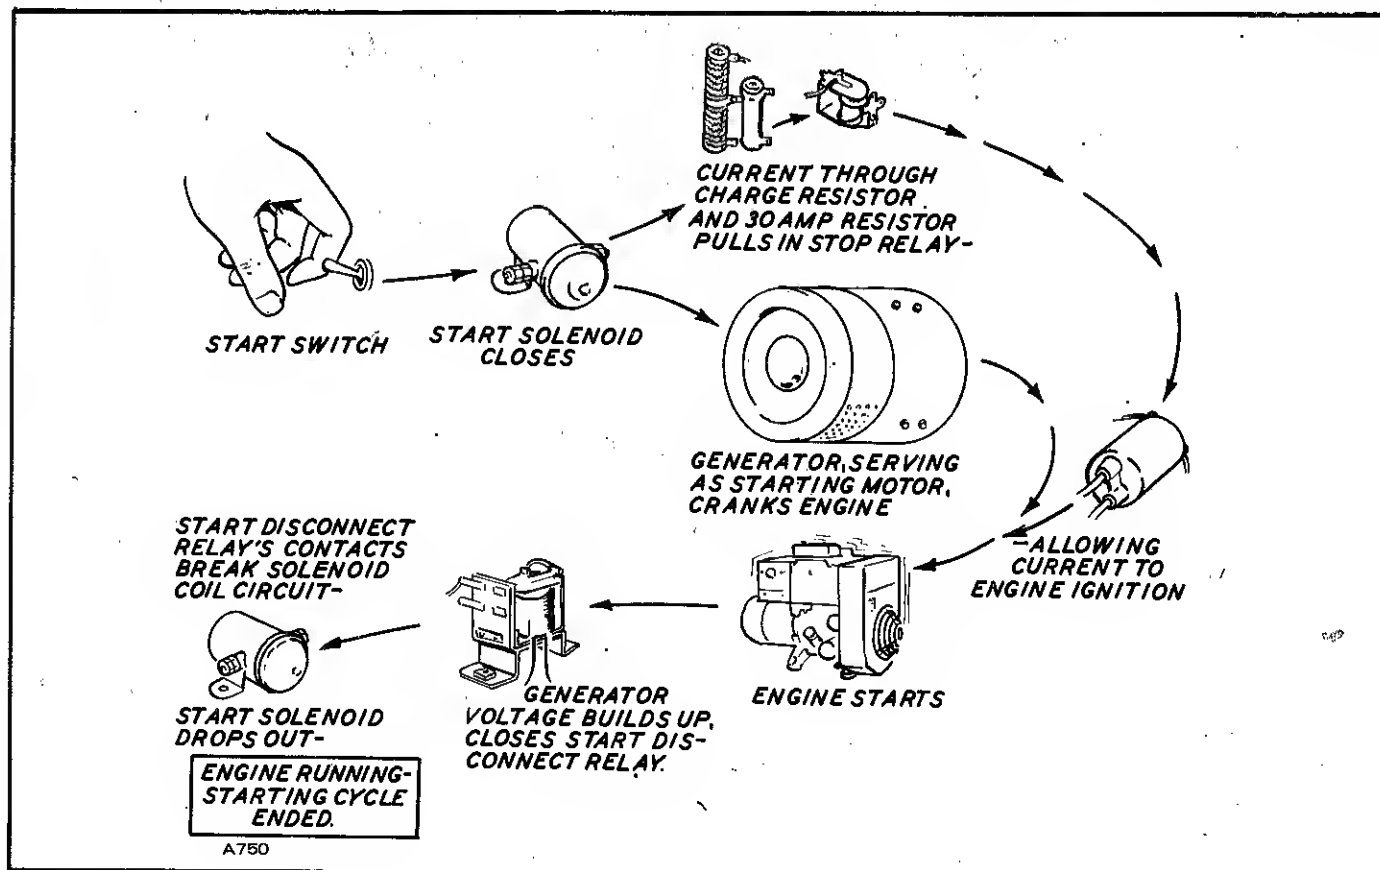

FIGURE 92. STARTING SEQUENCE FOR REVOLVING ARMATURE
**Starting and Stopping System:** The revolving armature starting system includes the start solenoid, stop relay and start-disconnect relay. Fig. 92 shows a starting cycle. To stop the engine, the stop switch grounds the stop relay, breaking the circuit to the ignition coil.